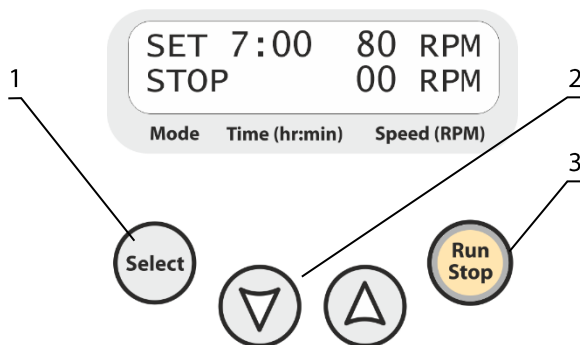

Figure 4. Control panel of CTR-6
- 5.3 **Setting the parameters.** Press the **Select** key (fig. 4/1) to choose the parameter to change. Each pressing of the **Select** key consecutively activates the parameters. The active parameter is flashing. Use the ▼ and ▲ keys (fig. 4/2) to set the necessary value. Pressing the key for more than 2 s increases the speed of value change.
- 5.4 Press the **Run Stop** key (fig. 4/3). The platform starts rotation, indication **RUN** appears on display and the timer in the lower line of the display starts counting the time interval.